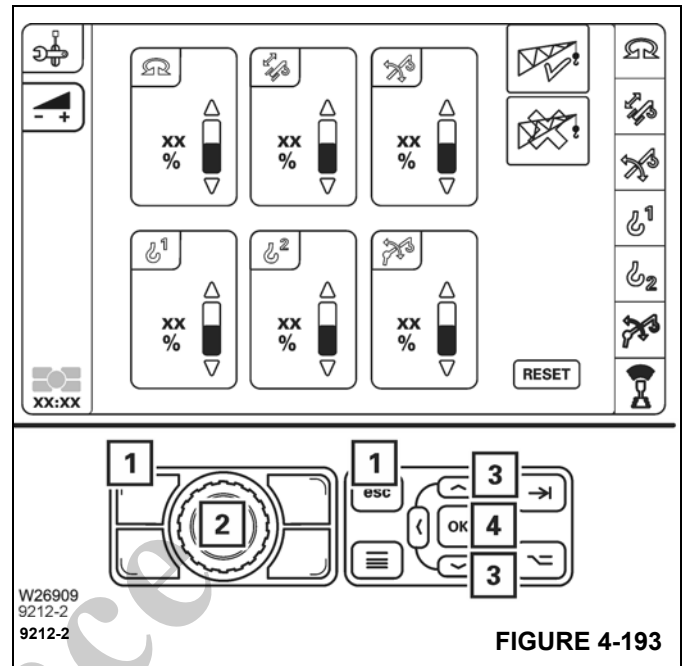

FIGURE 4-193
Change the value using the Jog Dial (2), (Figure 4-193) or the buttons (3), (Figure 4-193).
To cancel the input – press the Escape Button (1), (Figure 4-193) once.
Confirm the changed values – press the Jog Dial (2), (Figure 4-193) or the OK Button (4), (Figure 4-193) once. The changed values for the power unit are applied.